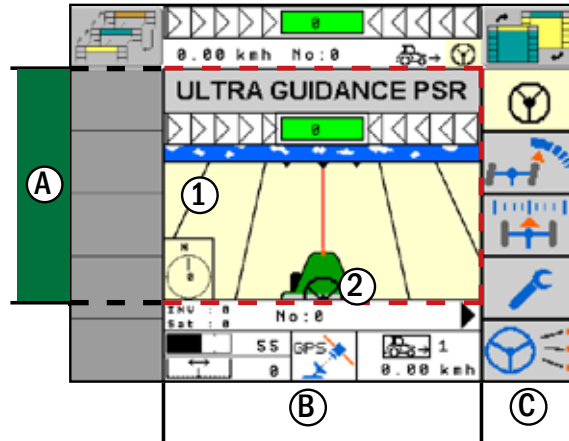

Fig. 18: Main display field
The main display field (A) shows the vehicle on its track. The deviation from the current leading line is represented by the arrow at the top. In PSR SKY, the deviation is additionally represented with a numerical value in cm (see Fig. 18). Using the selection buttons of the terminal, please click on the field (1) in order to set one of the three field colors or on the tractor (2) in order to select one of the 17 tractor colors.